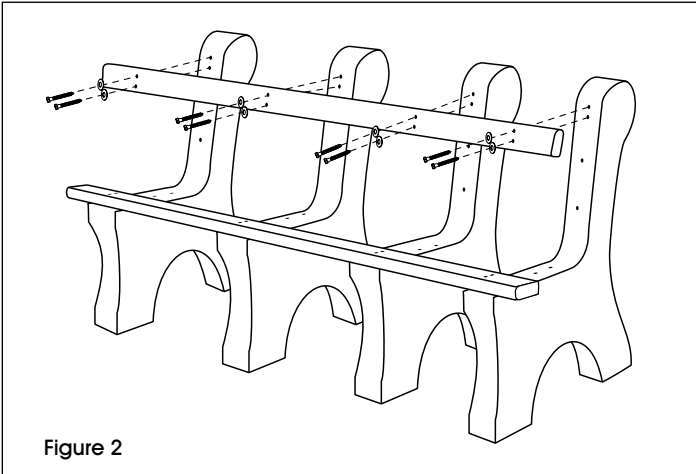

Figure 2
4. Align the second double holed bullnose bench slat on the top set of pre-drilled holes on the bench base backrest. Loosely attach double holed bullnose bench slat to the bench bases with the 3½" lag screws and washers using the power drill and 7/16" socket bit (will tighten later in step 7). (See Figure 2)